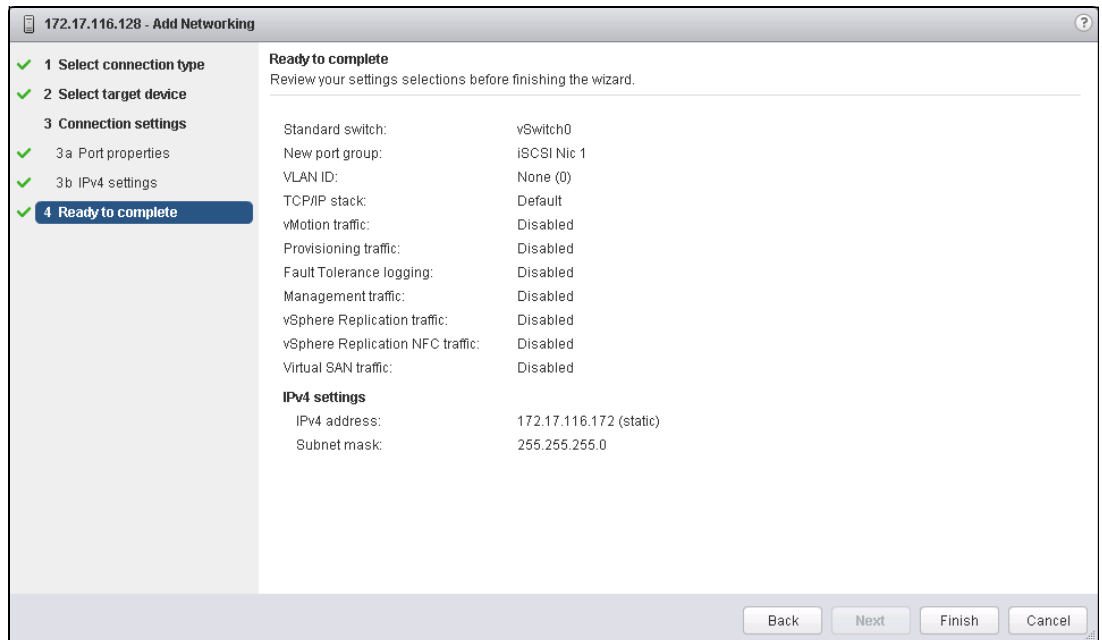

Figure 5-25 Ready to complete
7. Click **Next**, as shown in Figure 5-25.